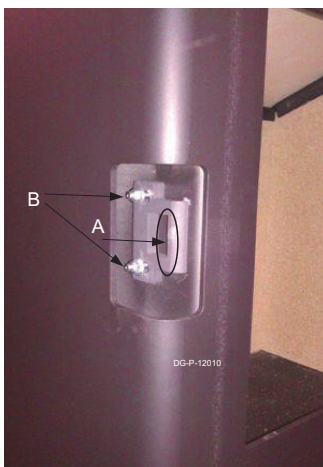

Fig. 1
- smear a small amount of heat-resistant grease on the inside of the closing plate (Fig 1, A);
- if necessary the door can be set by shifting the closing plate slightly by loosening the two crosshead metal screws (Fig 2, C) and the self-locking nuts (Fig 1, B);
- loosen the locking nuts (Fig 1, B) by one turn so that the closing plate can be shifted slightly. Shift the closing plate by one mm, ensuring that the front of the closing plate remains parallel with the front. Check this, for example using a caliper;
Caution it is important that the centre of the flue gas discharge (niche pipe or connecting piece suitable for 150 mm SS pipe) in the ceiling is located 190 mm from the wall (see fig. 1). If the distance is less or more, bends will have to be used.